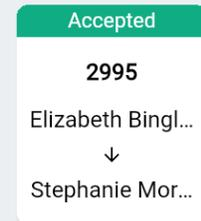

Fig. 146 – Outgoing transfers card
- 🔑 The top bar shows the status of the transfer request: **Pending**, **Accepted**, or **Declined**, as shown in Fig. 146.